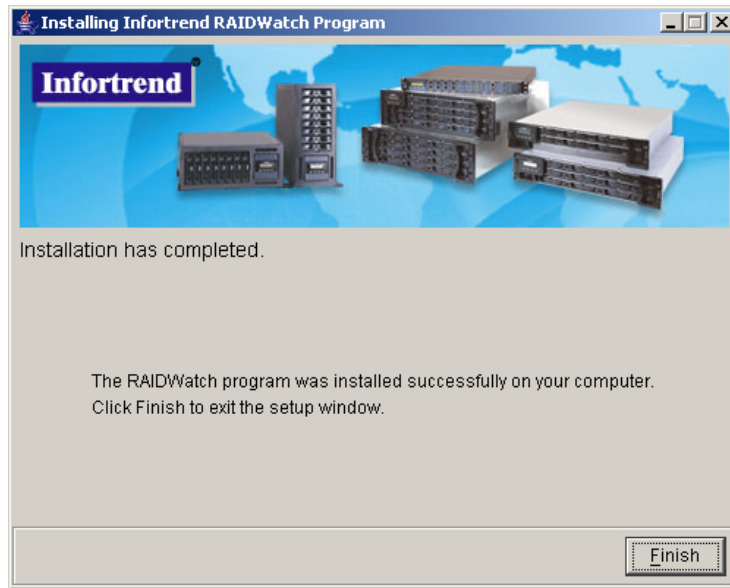

Figure 3-15: Successful Installation
-  **Step 3.** Once the software has been successfully installed, a window indicating the successful installation (see *Figure 3-15*) will appear. To complete the process and exit the window, click the *Finish* button.